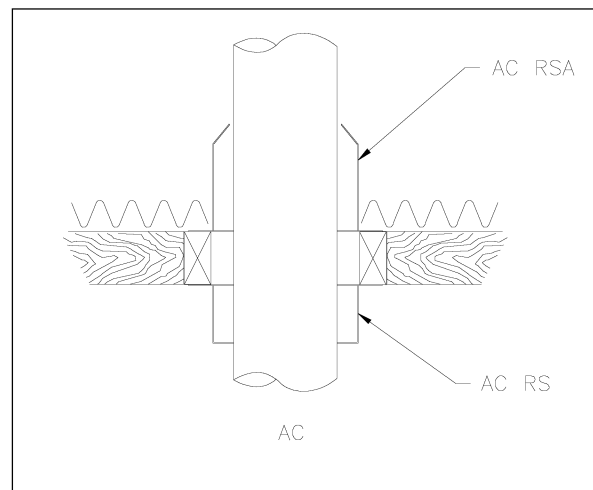

Figure 27
5. From below, install a firestop. (see figure 27).